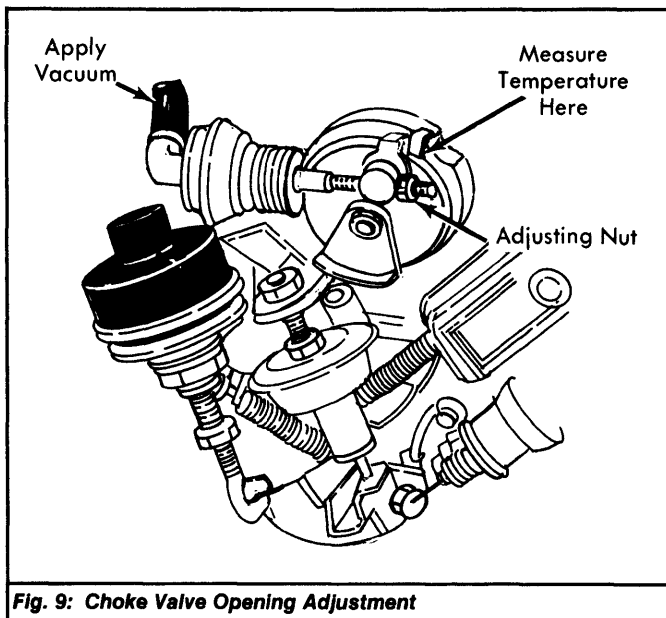

Fig. 9: Choke Valve Opening Adjustment
- 1) Disconnect vacuum sensing tube from vacuum diaphragm. Pull choke lever link out fully and hold in place. See Fig. 9. Apply approximately 15.7 in. Hg to vacuum diaphragm. Check clearance between choke valve and inward wall of choke bore.